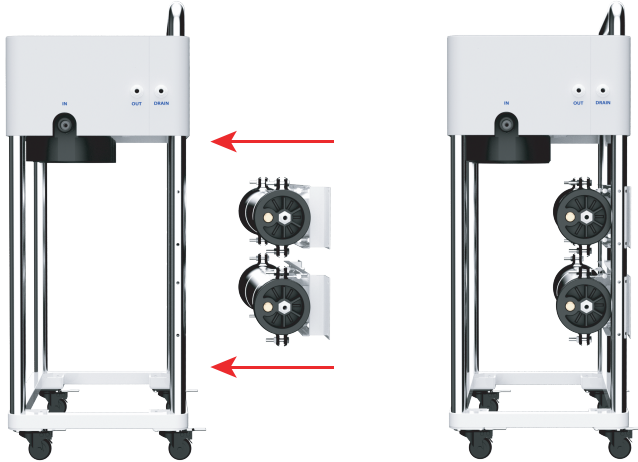

Figure 10.
5. Using M6*50 screws with nuts and washers to attach the membrane housings to the rear frame pillars, as shown in Figure 10. Ensure the screws are tightened.